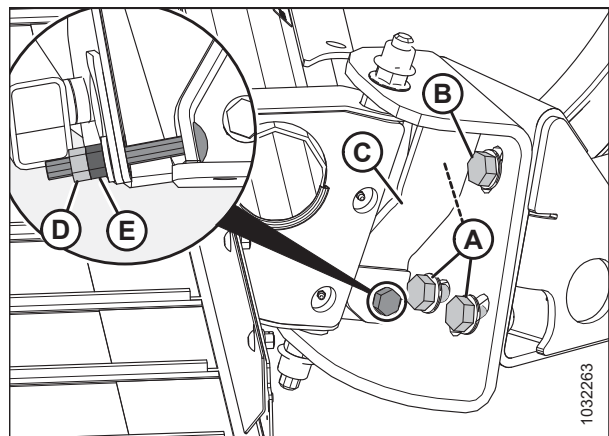

Figure 3.17: Deck Pivot
One of shorter bolts (A) is hidden behind bracket (C) and is not shown in Figure 3.17, page 62.
- Loosen jam nut (D).
- To **INCREASE** distance between the ground and the deck, tighten nut (E).
- To **DECREASE** distance between the ground and the deck, loosen nut (E).